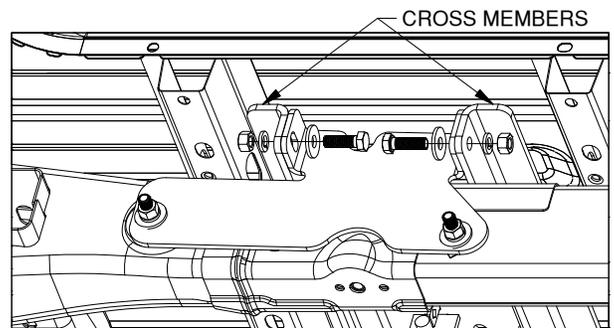

Figure C5: View of driver side wheel well.
4. **Attach side plates to cross members.** Attach the side plates to the cross members by passing two 1/2" X 1-1/2" cap screws and 1/2" flat washers through the side plate and cross members and securing with 1/2" lock washers and 1/2" finish nuts, as shown in Figure C5. Do not fully tighten at this time. Repeat steps 3 & 4 on the other side of the truck.